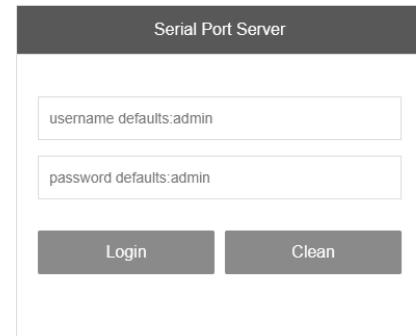

Figure 12.
5. If your company’s IT department will not approve the taseez lan application, type the adapter’s IP address in an internet browser to pull up the TASE-LAN Adapter settings: “192.168.0.89.” The following screen will display. Enter “admin” for both the username and password. Figure 12.